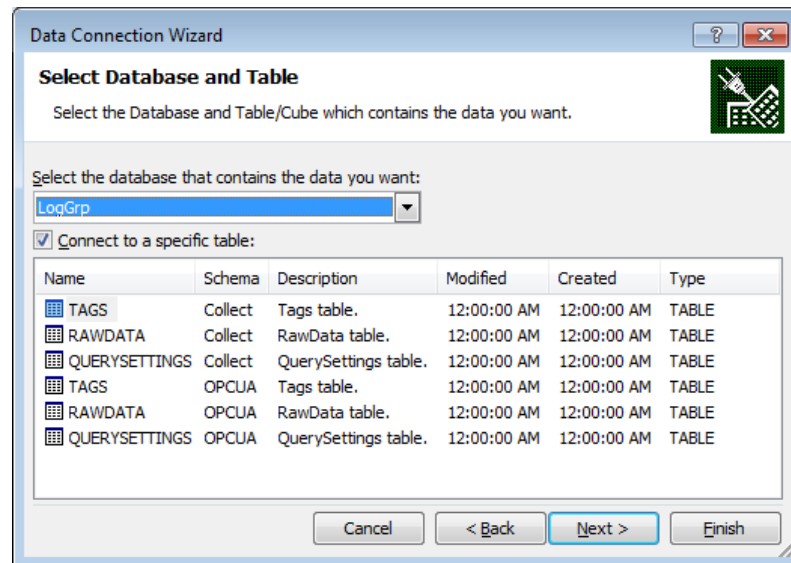

Figure LA.3 – Selecting a Table
7. In the dialog box that appears, choose the database that contains the data. In this case, it is **LogGrp**. A list of tables appears as shown in Figure LA.3.